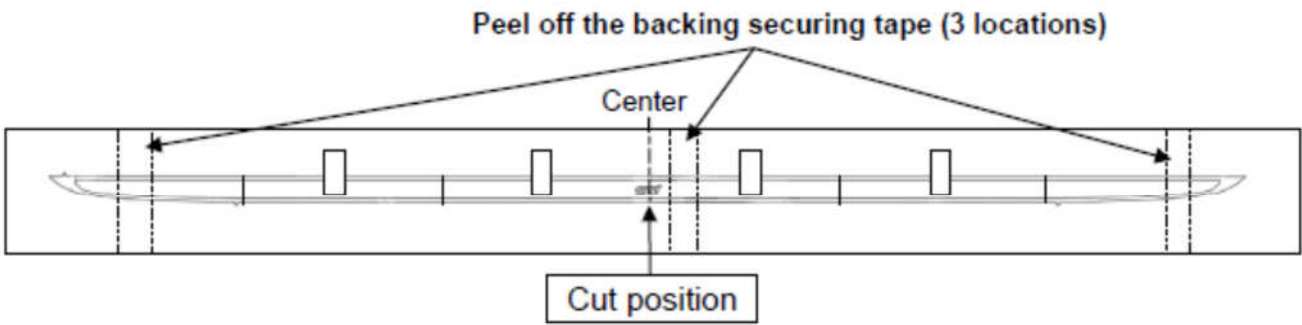

Fig. 4
4) As shown in Figure 4, peel off the tape that holds the backing securing tape.